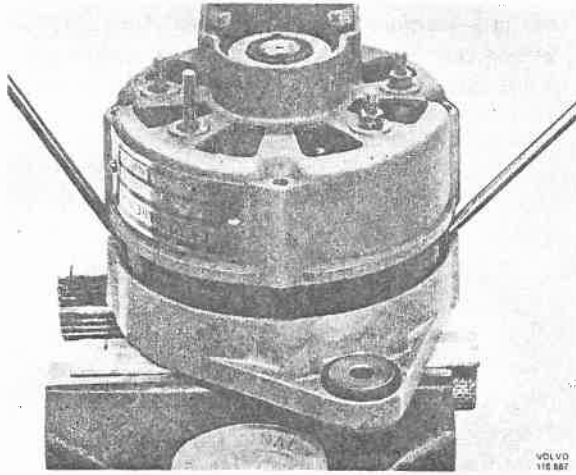

Fig. 32-12. Removing the stator and slip ring bearing shield from rotor and drive bearing shield
- Separate the drive bearing shield and the rotor from the slip ring end shield and stator by means of two screwdrivers, Fig. 32-12.